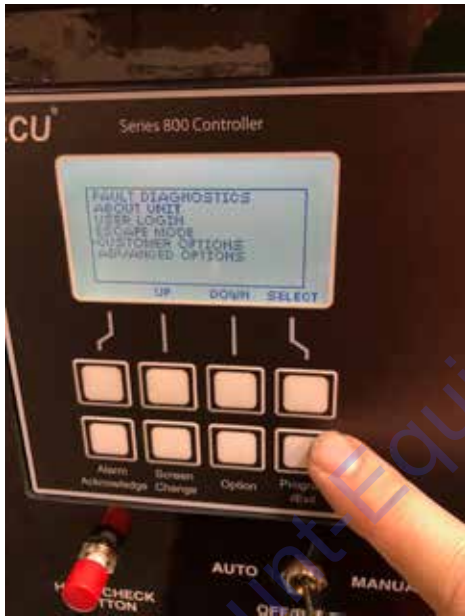

Figure 31. Program/Exit Button
11. Press the **PROGRAM/EXIT** button (Figure 31).